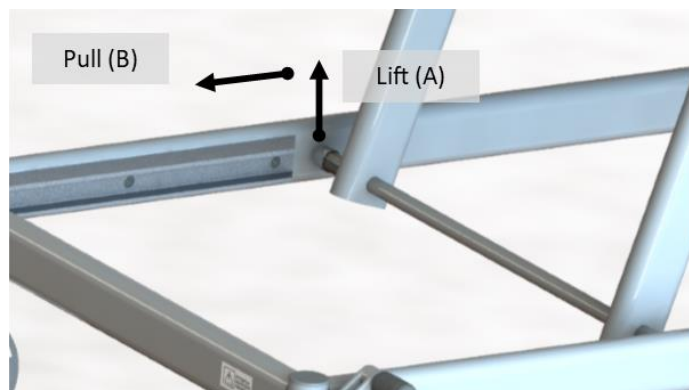

Figure 21: Crank roller bearing replacement
- c) Push the mattress platform assembly towards the foot end of the bed until the head end roller bearings (25) are just clear of the channels (figure 5 item 22) on the undercarriage assembly as shown on figure 21.
- d) Lift the mattress platform just enough for the roller bearings to clear the undercarriage frame (A) and pull the mattress platform back (B) towards the head end with the roller bearing just clearing the channels – refer figure 21.
- f) Pull the roller bearings (25) and spacer bushes (24) off the crank shaft.